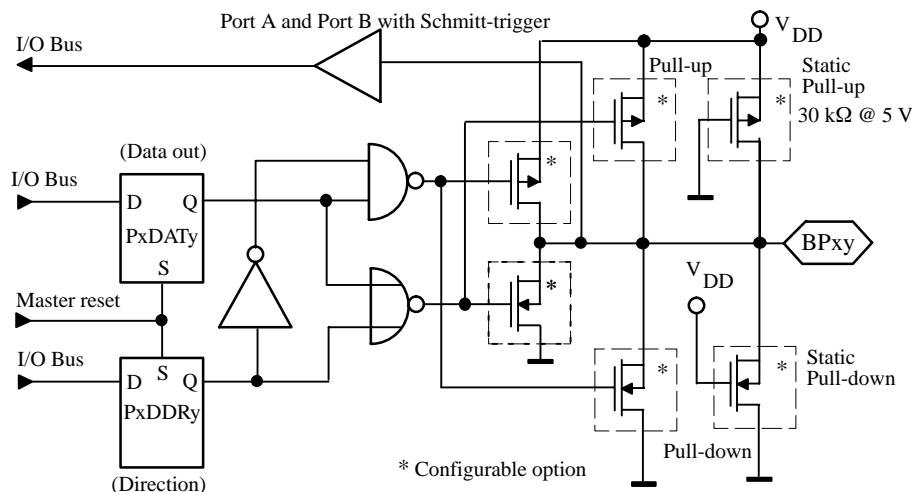
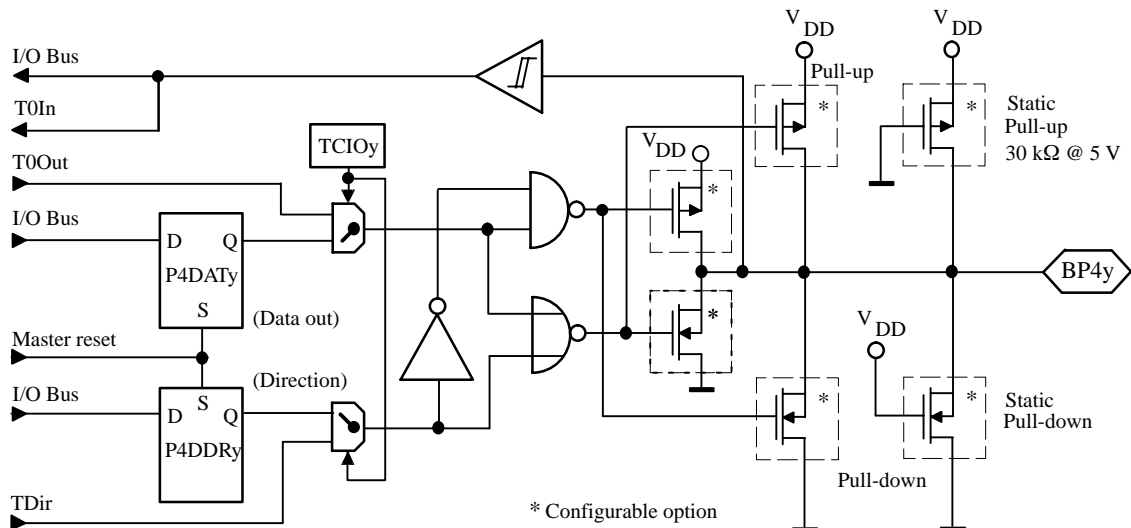

Figure 20. Bidirectional Ports 5, 7, A, B and C
Figure 24. Bidirectional Port 4
- 3) The Dynamic pullup/down transistors are configurable and if selected, are only activated when the associated complementary driver transistor is off. ie. A dynamic pull up transistor is only active when the port is either in input mode (both drivers off) or when a logical 1 is written to the port pad (low driver off) in output mode. (figure 20)
- 4) The Static Pullup/down transistors are configurable and if selected, are always active independent of the port direction or driven state. (figure 20)
A, B and C (see figure 20). Two additional multiplexers allow data and port direction control to be passed over to other internal modules (Timer 0 or Buzzer). Each of the four Port 4 pins can be individually switched by the Timer/Counter I/O Register (TCIO). Figure 24 shows the internal interfaces to Port 4.